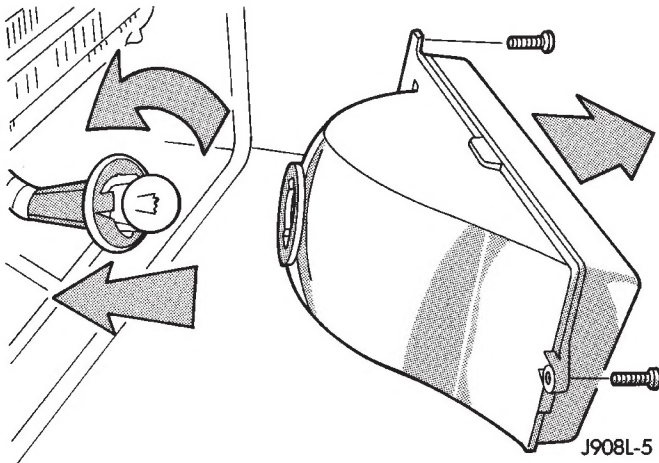

Fig. 10 Park/Turn Signal Lamp Housing Removal
(3) Remove screws from the park/turn signal lamp housing (Fig. 10).